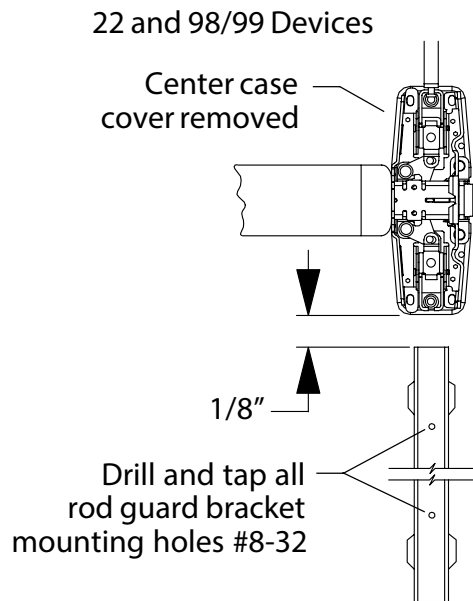

Figure 6
- 5 Position rod guard bracket on door and mark all mounting holes (Figure 6 or Figure 7).